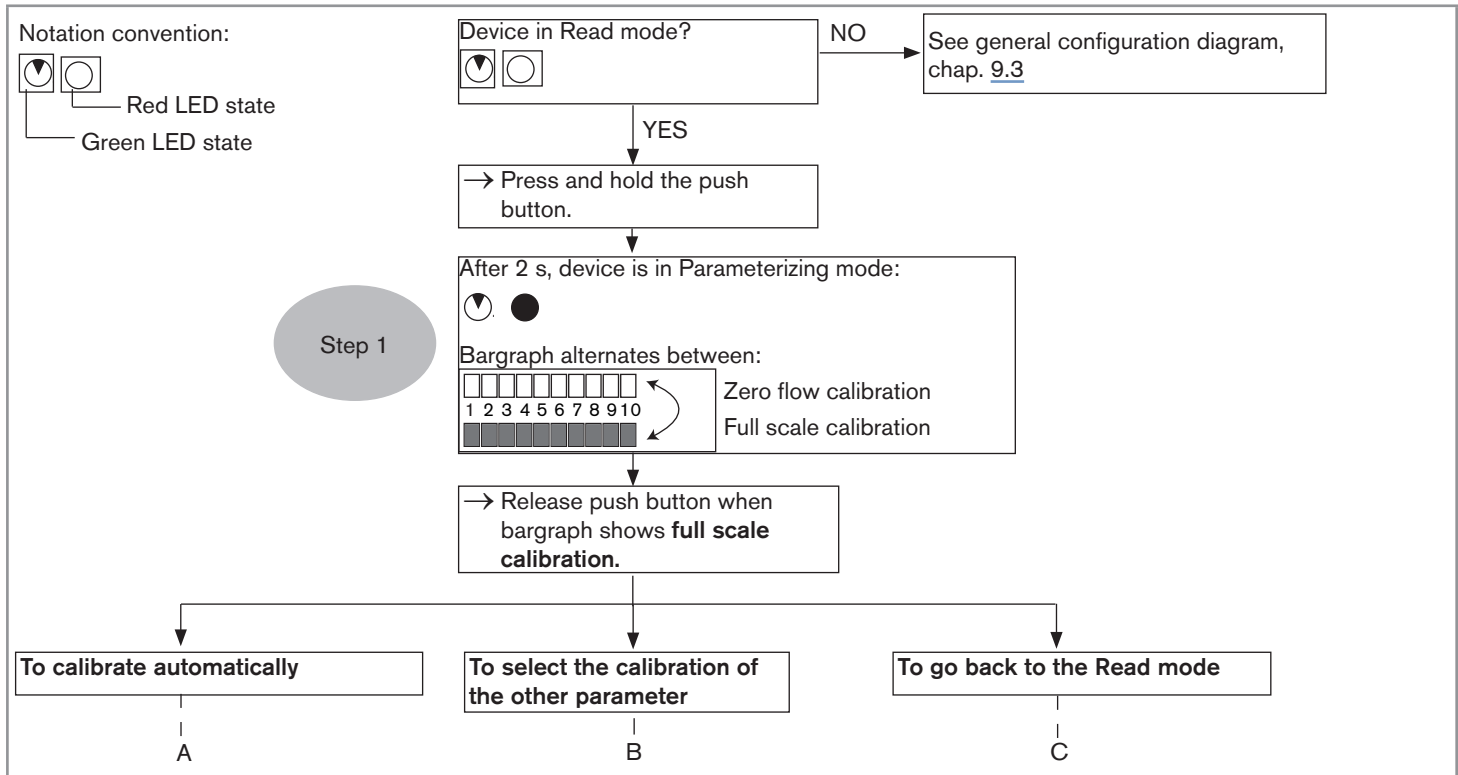
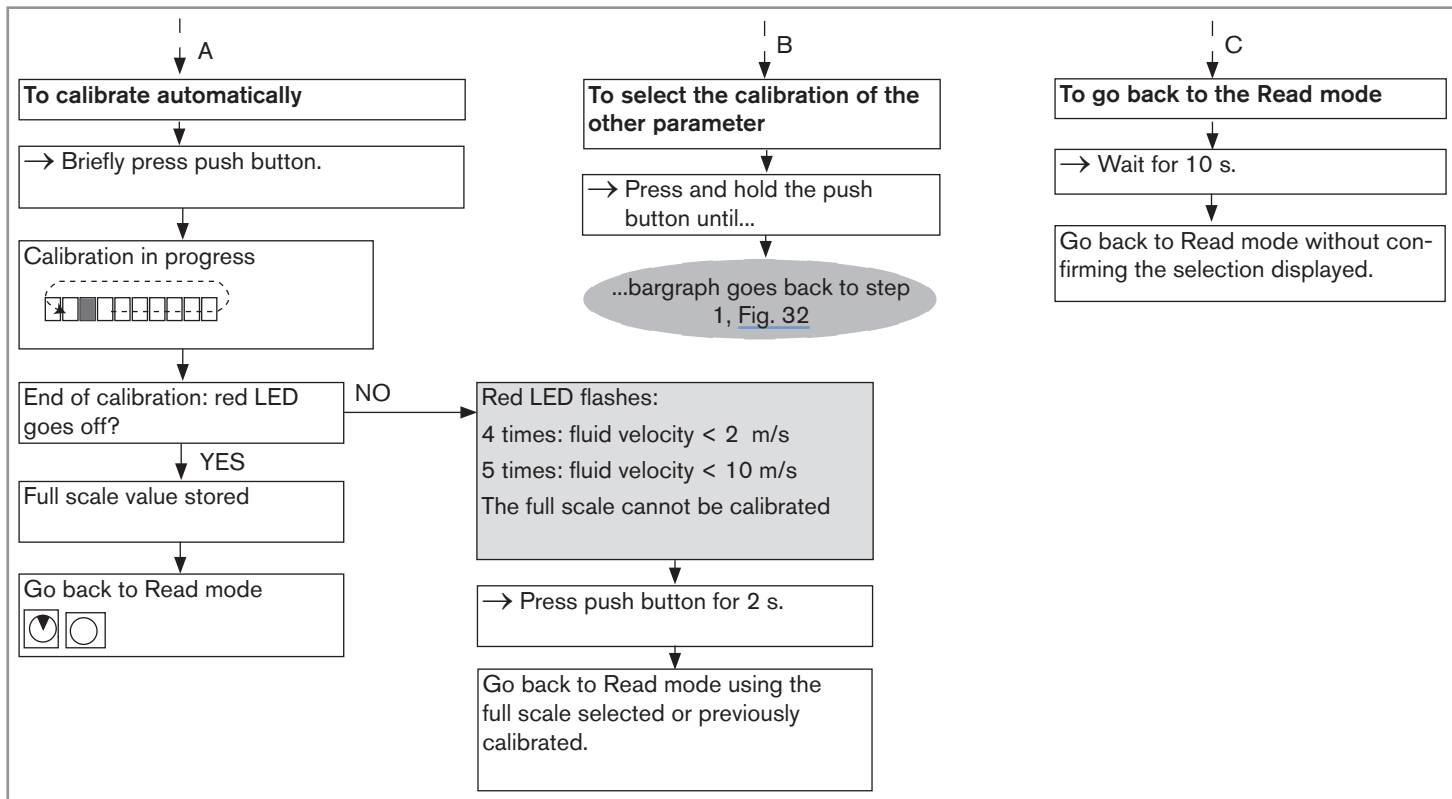

Fig. 32: Calibration of the full scale, part 1
Fig. 33: Calibration of the full scale, part 2
- Calibrate the full scale, see Fig. 32 and Fig. 33.